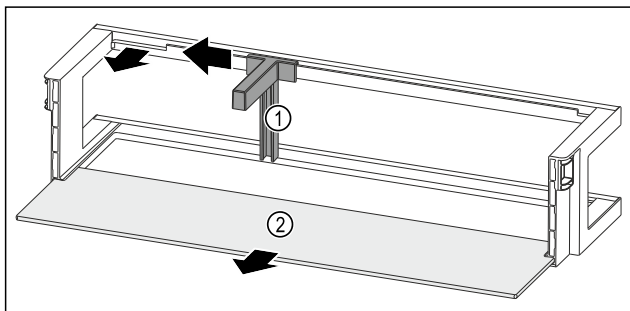

Fig. 142 Door rack with bottle holder and shelf
- ▶ Slide the bottle holder Fig. 142 (1) to the side as far as the recess.
- ▶ Remove the bottle holder Fig. 142 (1).
- ▶ Remove the shelf Fig. 142 (2).